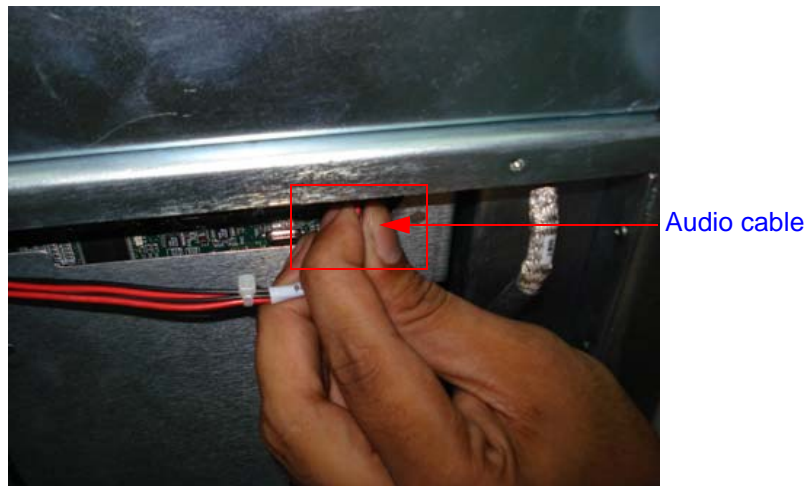

Figure 8-44 Removing Audio cable of MST board
- 6) Remove the Audio cable from MST board Refer Figure 8-44 on page 8-43